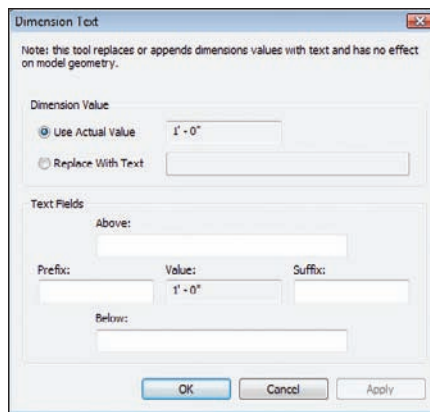

FIGURE 5.41 The Dimension Text dialog
2. Notice the text turns blue. As you know, blue means that this item is editable in Revit. Pick the text. You should see the dialog in Figure 5.41.